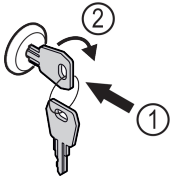

Fig. 177
- ▶ Insert key Fig. 177 (1).
- ▶ Turn key clockwise by 90° Fig. 177 (2).